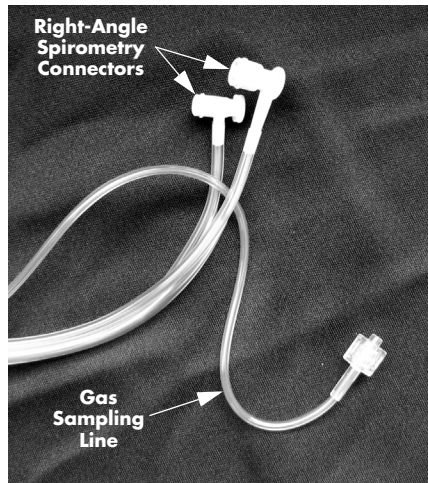

FIGURE 2-47
1. The Gas Sampling Line and the Spirometry Tubes are separate pieces that must be used in conjunction with each other. Lay the Gas Sampling Line between the Right-Angle Spirometry Connectors of the Spirometry Tubes as shown in FIGURE 2-47.